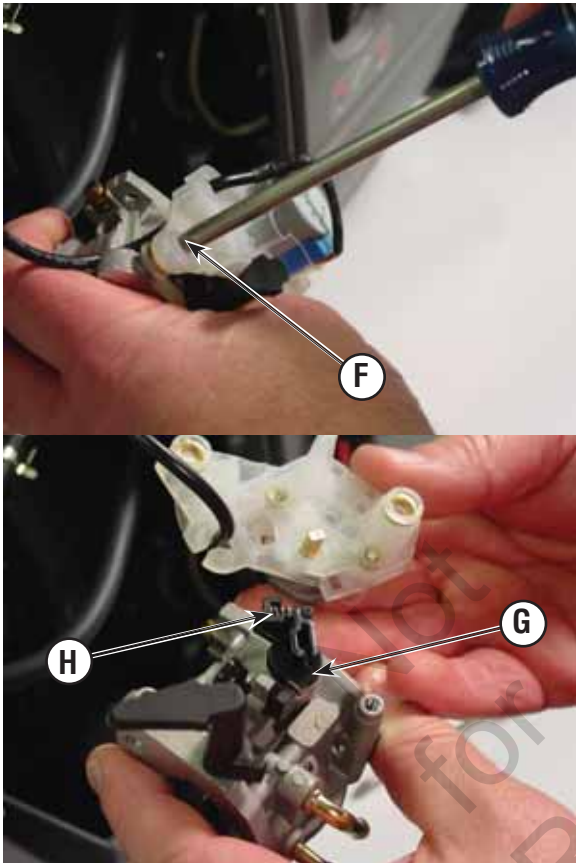

Figure 41
2. Remove two screws that hold the stepper motor to the carburetor assembly (F, Figure 41).
3. Locate the throttle lever (G).